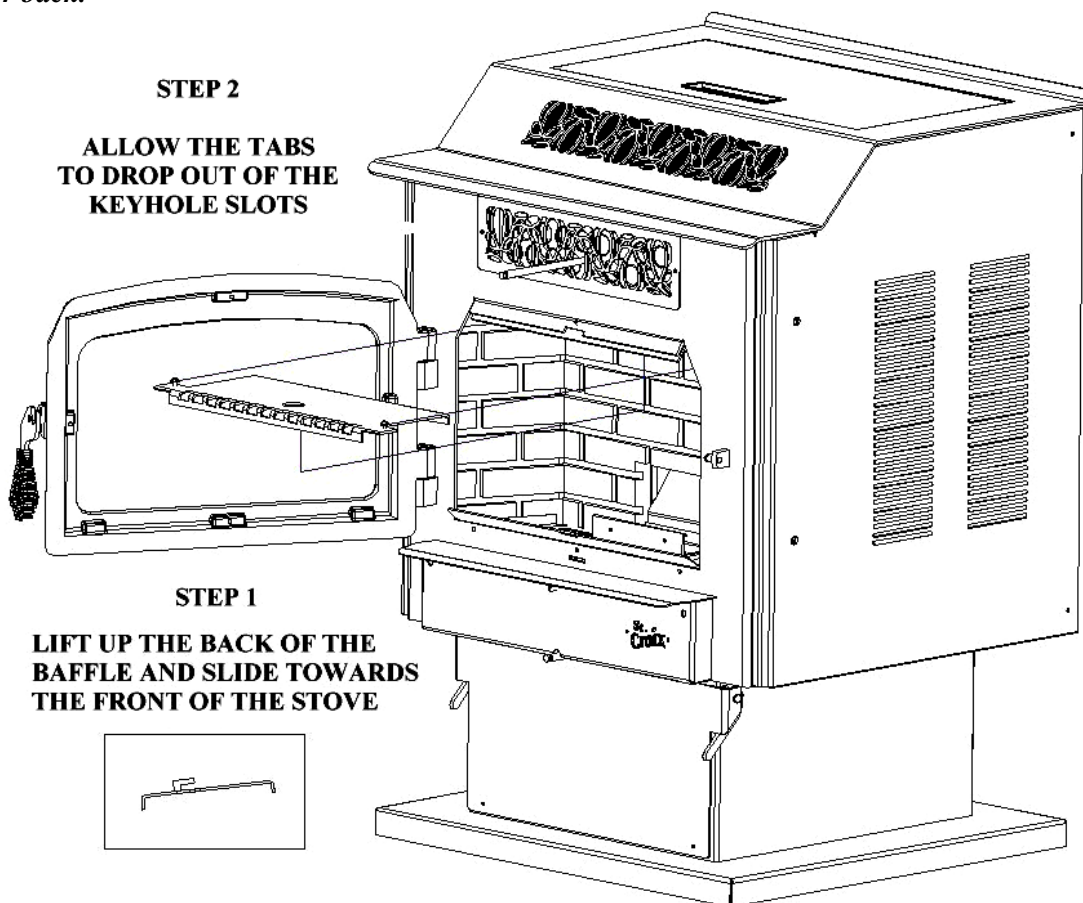

Figure 8
To remove the baffle (See Figure 8), lift the back of the baffle up to clear the inner back of the stove and slide towards the front of the stove. The baffle will slide out of the keyhole slots and drop down. *When putting the baffle back in the stove, make sure the screws are in the keyhole slots and the back of the baffle is lifted up over the inner back.*
4. The Exhaust and Room fans should be removed and cleaned annually. Call dealer for this service. Annual oiling of the motors is not needed. (See fig. 8)